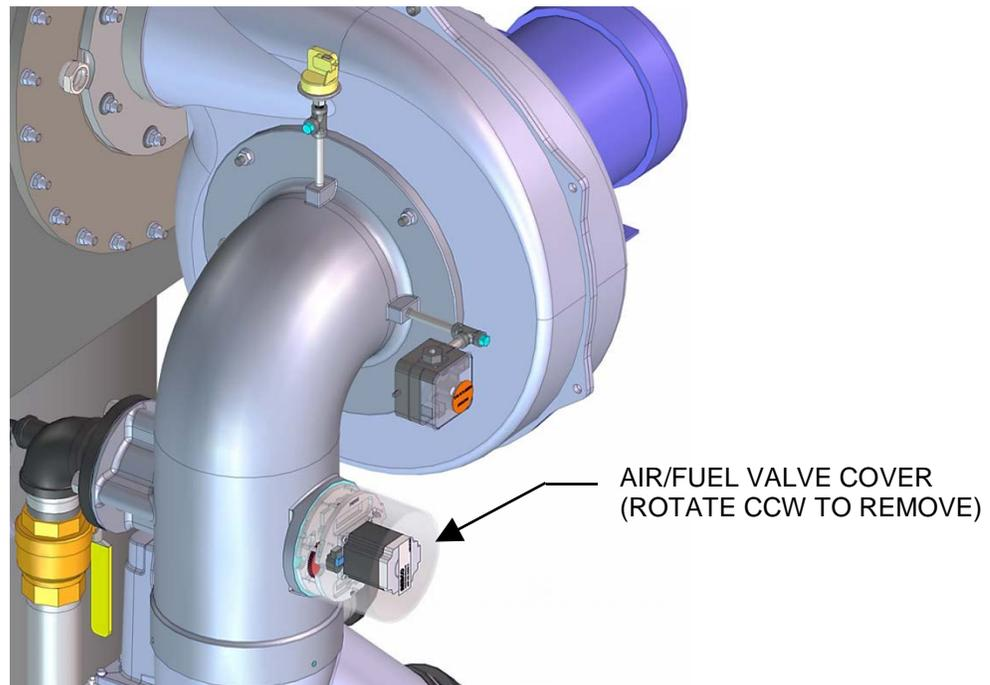

Figure 6-8: Air/Fuel Valve Cover Location
3. Remove the Air/Fuel Valve cover by rotating the cover counterclockwise to unlock it (see Figure 6-8).
3. Remove the Air/Fuel Valve cover (see Figure 6-8, above) by rotating the cover counterclockwise to unlock and lift up to remove.